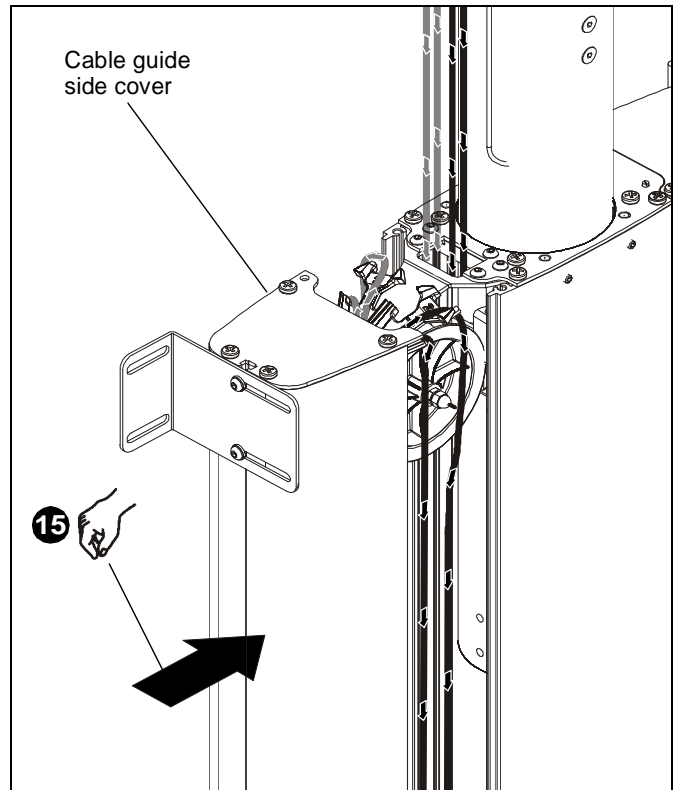

Figure 12
15. Slide cable guide side cover over CM2 mount lining up two holes in cable guide side cover with two holes in CM2 mount. (See figure 12)